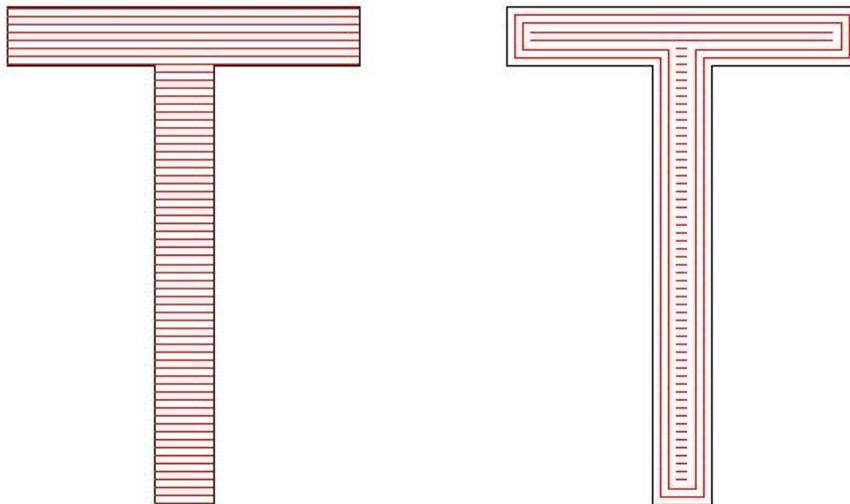

Figure 3-10 NumLoops
**NumLoops:** The times of Ring-like hatch before the acclinicing hatch (Figure 3-10).